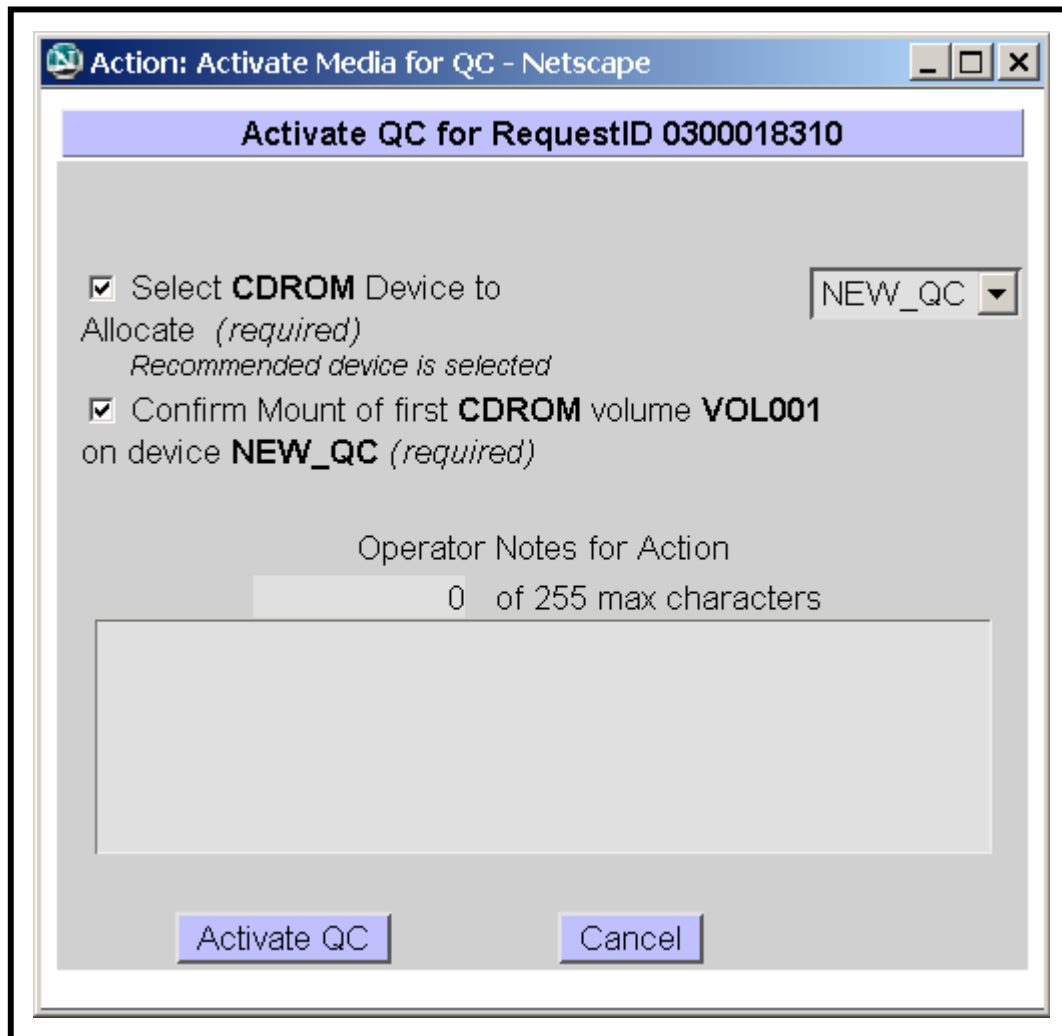

Figure 98. Activate QC Dialogue Box
The **Activate QC** dialogue box (Figure 98) provides the full-capability operator with means of manually activating PMD QC. The full-capability operator has options for assigning a different device for performing QC of the volume, confirming tape mounting (if applicable), and/or annotating the action.
- An **Activate QC** dialogue box (Figure 98) is displayed.